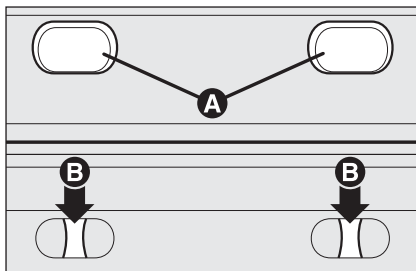
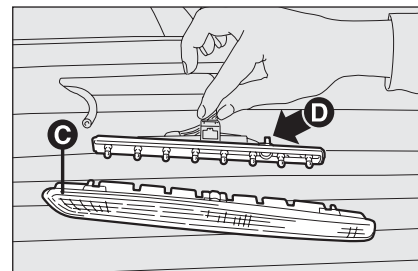

fig. 22
fig. 23
- remove the rubber caps **A**-fig. 22;
- press the catches **B**-fig. 22 and remove the lens unit **C**-fig. 23;
- press the tabs **D**-fig. 23 and remove the bulb holder;